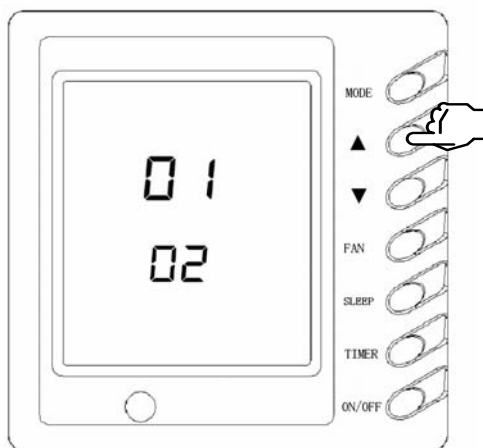

Fig.12
- ②: Indoor ambient temp is wired controller temp and setting temp area displays 02, as shown in Fig.12.